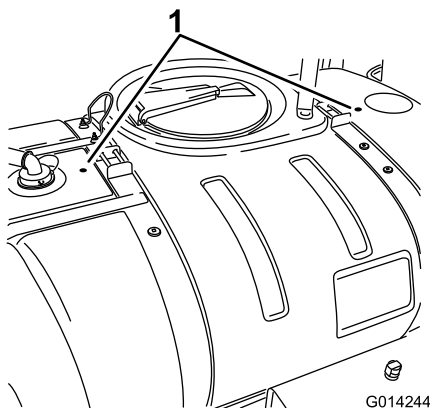

Figure 11
2. Locate the two drill marks in the main tank (Figure 11).